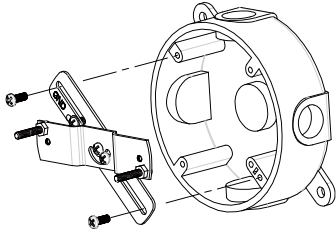

FIGURE 36
- (1) Switch off the power source or wall switch.
- (2) Line up the holes on the mounting bracket with the holes on your junction box. Using fitting screws (depending on size of the holes in your junction box), and attach the mounting bracket to your junction box (FIGURE 36).